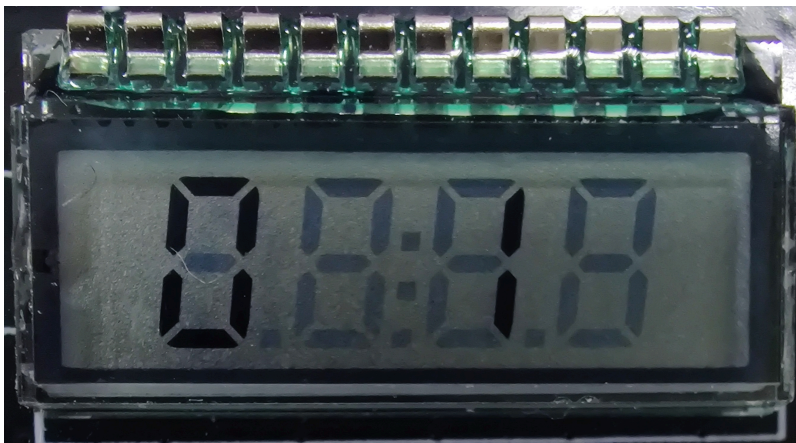

Figure 10. RUN mode with software token available
7. To wake up the MCU, press **SW2** or wait until LPTMR expires. Then the number on the SLCD changes to "0" or "3", depending on the previous power mode, as shown in Figure 10.
Figure 10 implies the following: